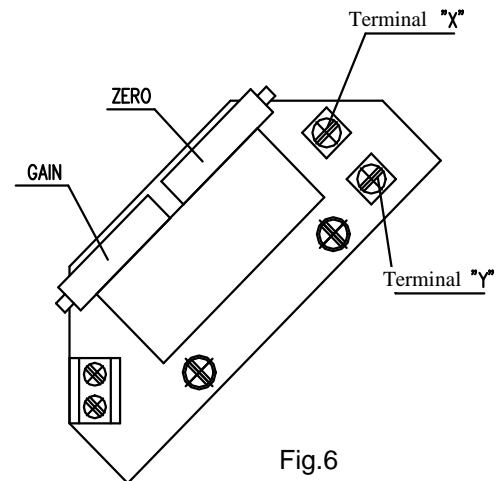

Fig.6
4.4.1 EPV – the 2-wire version (Fig. 6,6a)
- Adjust the resistive transmitter according to the previous chapter. The resistance is to be metered on the terminals X-Y (Fig. 6,6a). The used transmitter resistance is 100 W.
- Adjust the resistive transmitter according to the previous chapter. The resistance is to be metered on the terminals X-Y (Fig. 6,6a).